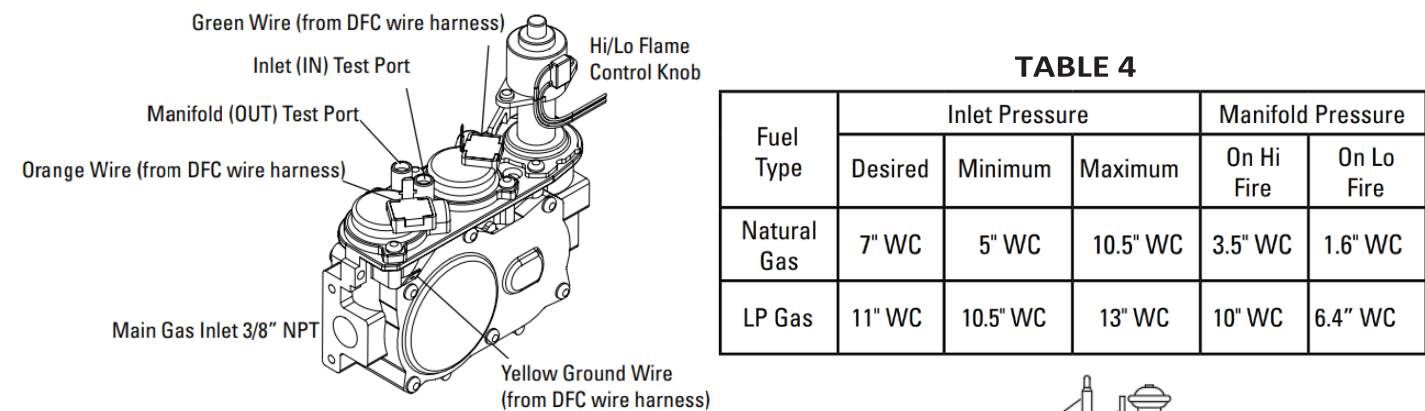

FIGURE 37
- 11) Plug the spade connectors into the module according to the below wiring diagram (**Figures 37 & 38**), insert the pilot tubing into the right side of the valve and, using a wrench, tighten the nut so that the pilot tubing cannot be pulled out.